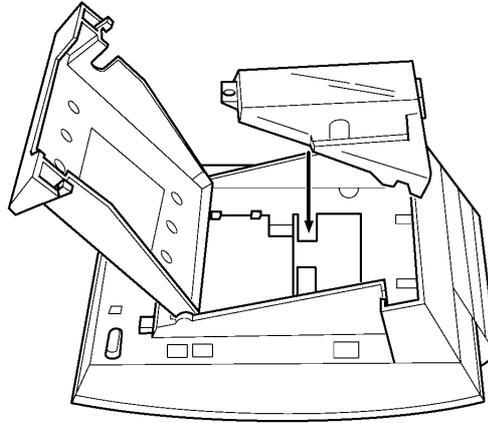

Figure 7-16 Attaching the Unit to the Multiline Terminal
3. Plug the unit into the receptacle connector inside the base plate on the Multiline Terminal. Refer to *Figure 7-16 Attaching the Unit to the Multiline Terminal*.